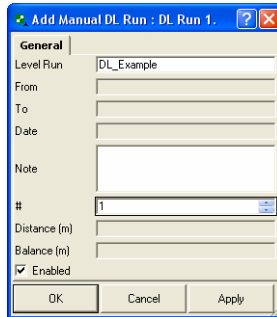

Figure 5-100. Add Manual DL Run dialog box
- In the *General* tab of the *Add Manual DL Run* dialog box (Figure 5-100) type in the name of the leveling job and set the number of the leveling.